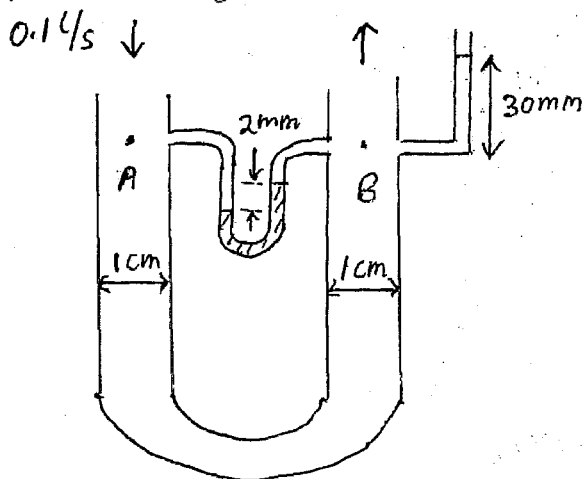

Figure 2
2) A glass pipe with a uniform diameter of 1 cm is bent in the shape of the letter U and placed in a vertical plane as shown in Figure 2. A U-tube mercury (density  $13,600 \text{ kg/m}^3$ ) manometer is connected to the points A and B while a simple water (density  $1000 \text{ kg/m}^3$ ) manometer open to the atmosphere is connected at B. The length of the pipe between A and B is 50 cm.